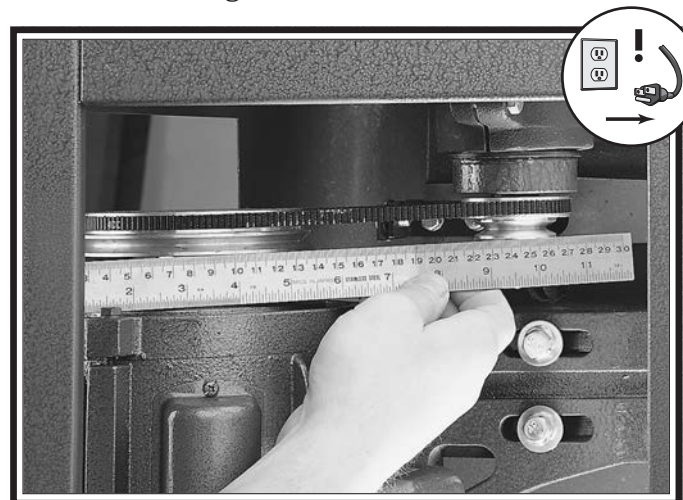

Figure 94. Example of checking pulley alignment with straightedge.
- Hold straightedge up to pulleys to determine if they are both aligned and parallel, as shown in **Figure 94**.